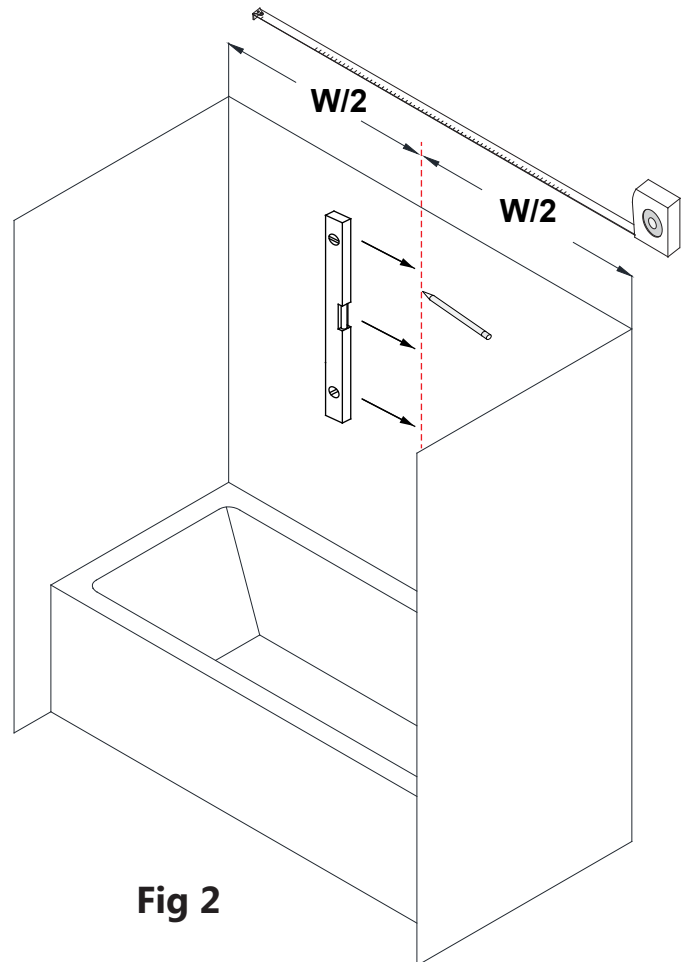

Fig 2
2. Divide the "**W**" measurement in half (**W/2**). Draw a plumb line to mark the center of the back wall **(Fig 2)**